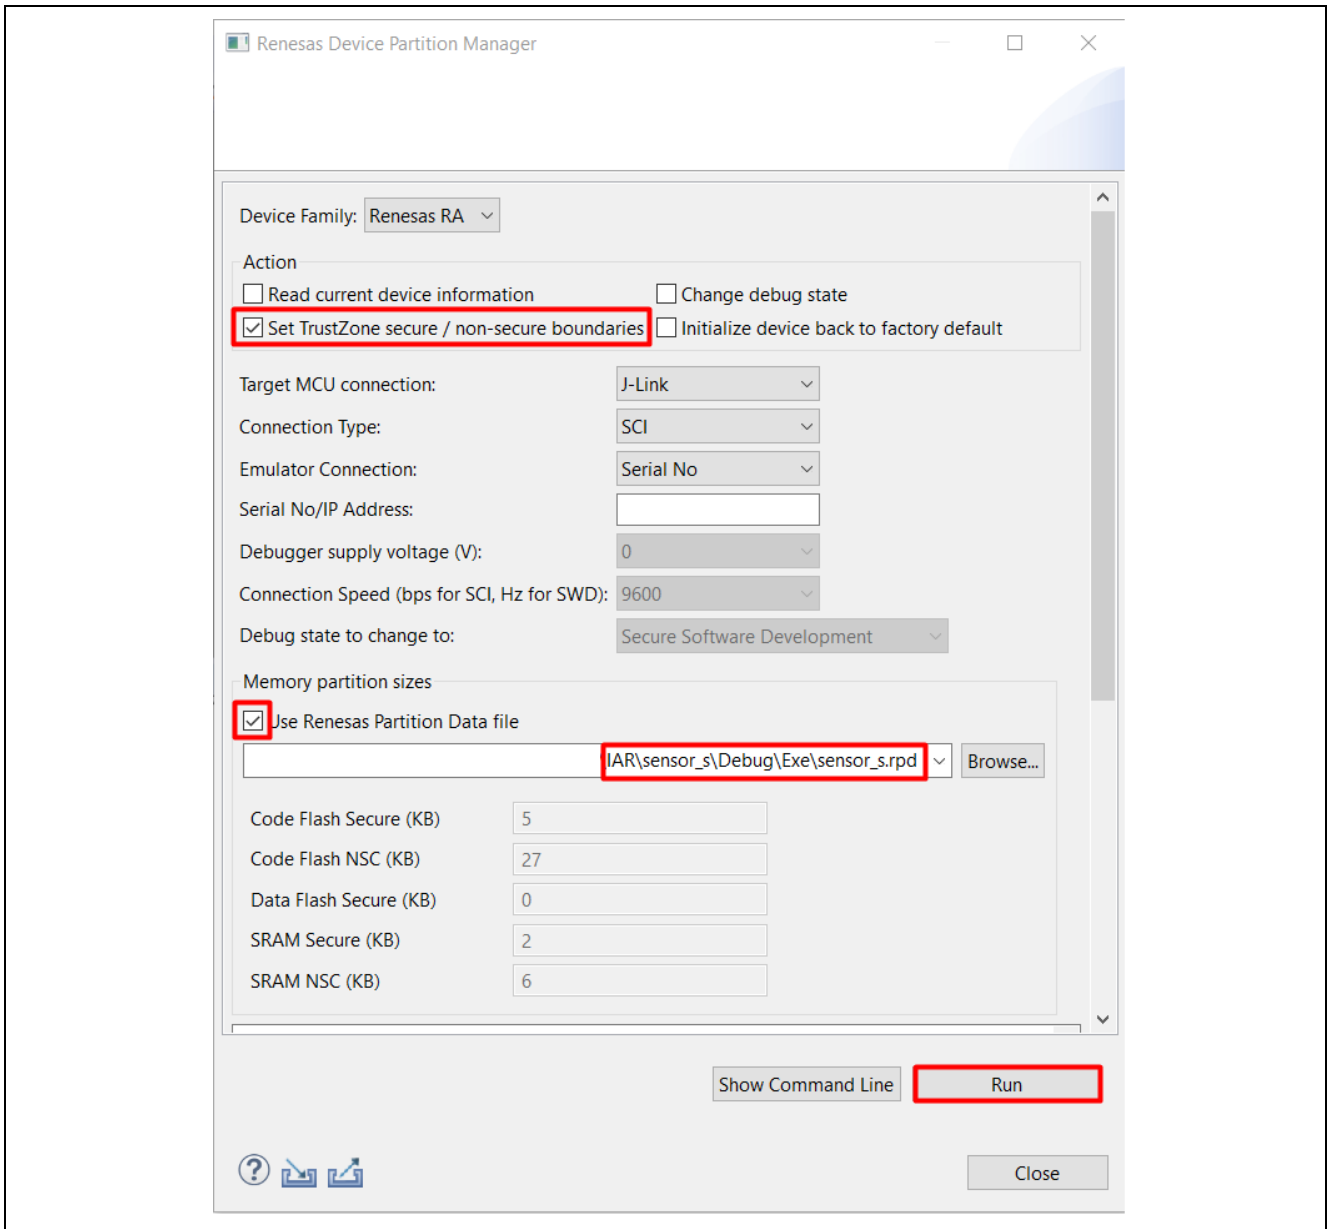

Figure 75. Configure the Renesas Device Partition Manager
Once the Renesas Device Partition Manager is launched, configure the settings as shown in Figure 75. Use **Browse** to select the `.rpd` file generated from the secure project (`sensor_s.rpd`) as the input for the **User Renesas Partition Data file** entry.
- Launch Device Partition Manager and set up the IDAU region using the sensor_s.rdp in a similar way as in Figure 75.